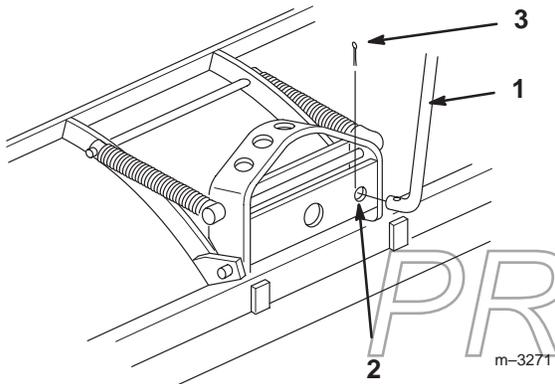

Figure 2
2. Insert the control rod (end without the washer welded on) in 1/2" (13 mm) hole in bottom plate of channel. Secure control rod with a 1/8 x 1" (25 mm) cotter pin between plates (Fig. 2).